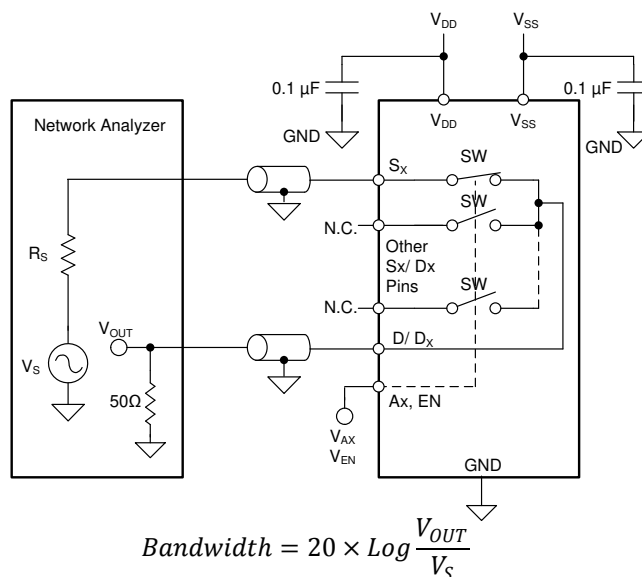

图 8-11. Bandwidth Measurement Setup
Bandwidth (BW) is defined as the range of frequencies that are attenuated by < 3 dB when the input is applied to the source pin (Sx) of an on-channel, and the output is measured at the drain pin (D or Dx) of the TMUX810x. 图 8-11 shows the setup used to measure bandwidth of the switch.